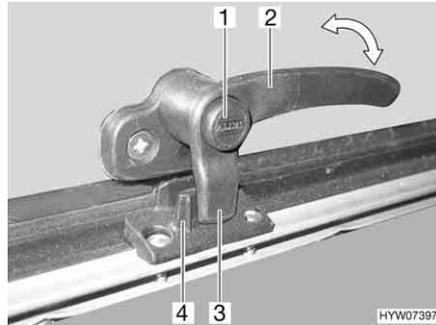
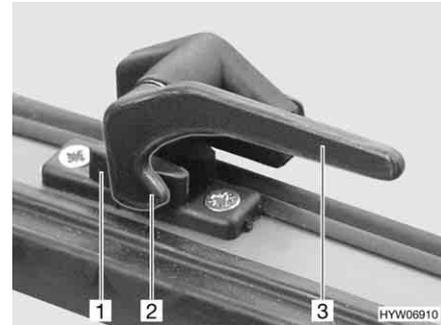

Fig. 73 Catch lever with safety knob in "closed" position
Fig. 74 Catch lever in "closed" position
- Press and hold the security button (Fig. 73,1), if present.
- Turn all catch levers (Fig. 73,2 or Fig. 74,3) a quarter turn towards the centre of the skylight.
- Turn all catch levers (Fig. 73,2 or Fig. 74,3) a quarter turn towards the frame. The locking catch (Fig. 73,3 or Fig. 74,2) is located on the inside of the skylight lock (Fig. 73,4 or Fig. 74,1).
- Firmly closed (Fig. 73 and Fig. 74)